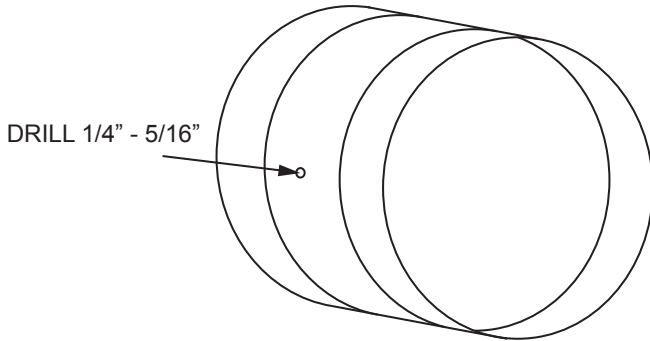

Figure 22.
1. Drill a 1/4" to 5/16" hole in the connector per Figure 22.